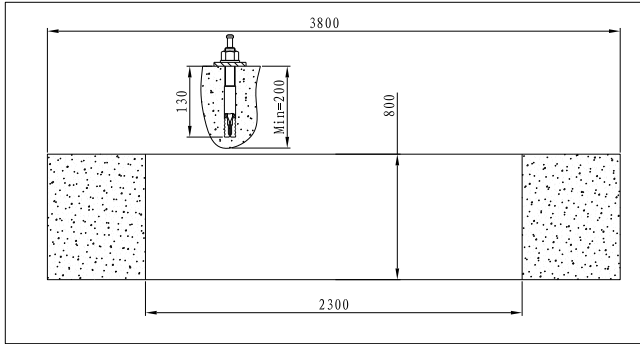

Fig. 28
- ◆ Install the screw according to *Fig. 28*.